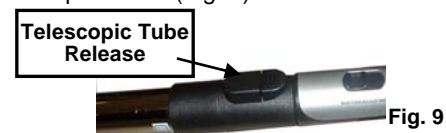

Fig. 9
- To remove the telescopic tube from the flexible hose, press on the telescopic tube release button and pull it out. (Fig. 9)